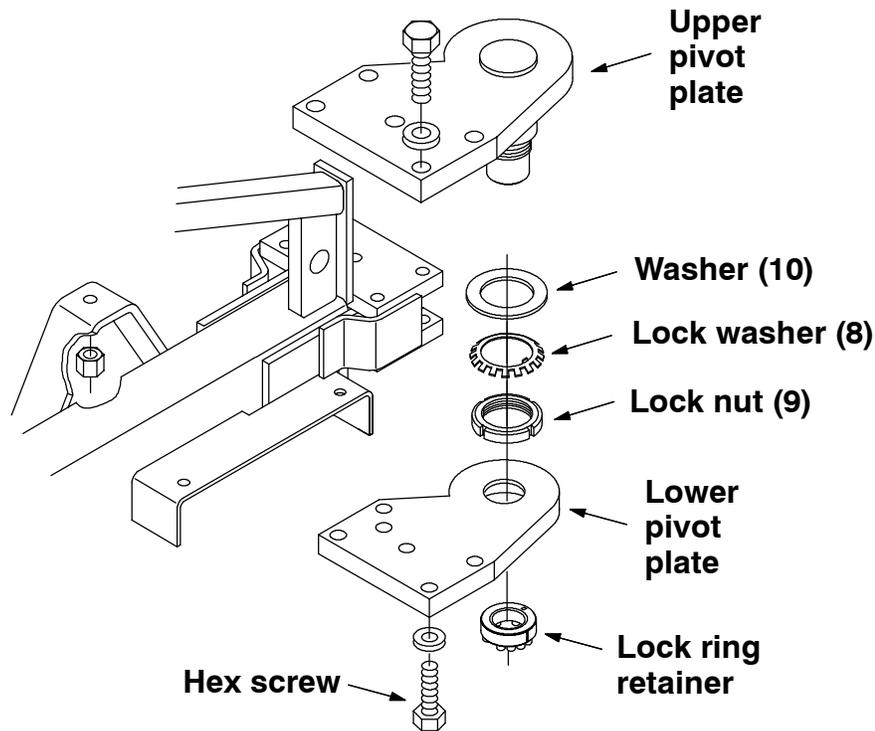

FIG. 6 - Upper And Lower Pivot Plates
13. Remove and discard the bottom pivot plate bolts and pivot plate. Count the number of threads exposed below the slotted nut on pivot shaft. (Refer to FIG. 6)
14. Remove and discard the slotted nut and tabbed lock washer. (Refer to FIG. 6)
15. Remove and discard the washer and bearing cone. (Refer to FIG. 6 and 7)
1. The old upper bearing cone is pressed on. A bearing puller must be used to remove it. Removal of the upper bearing mount plate from the machine will make this easier. (Refer to FIG. 6 and 7)
2. Pre-grease the new bearing cone (6) and press it on the shaft. Reinstall the upper bearing mount plate if removed. Tighten the five M20 hex screws to 300 - 390 Nm (220 - 290 ft lb). (Refer to FIG. 6 and 7)
3. Place the new rear wheel support (2) under the machine. Raise the housing in position with the floor jack.
4. Pre-grease the second bearing cone (6) and install with a new hardened washer (10), tab lock washer (8), and slotted nut (9). Lubricate the face of the tab lock washer so the locking nut can turn freely. (Refer to FIG. 6 and 7)
6. Reinstall the bottom pivot plate. Only **HAND TIGHTEN** the hex screws at this time. (Refer to FIG. 6)